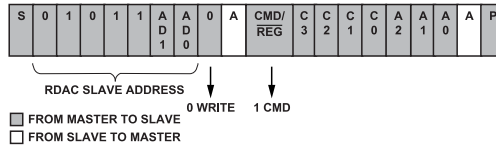

Figure 31. RDAC Quick Command Write (Dummy Write)
The AD5253/AD5254 feature 12 quick commands that facilitate easy manipulation of RDAC wiper settings and provide RDAC-to-EEMEM storing and restoring functions. The command format is shown in Figure 31, and the command descriptions are shown in Table 9.
2. In the write mode (except when restoring EEMEM to the RDAC register), there is an instruction byte that follows the slave address byte. The MSB of the instruction byte is labeled CMD/REG. MSB = 1 enables CMD, the command instruction byte; MSB = 0 enables general register writing. The third MSB in the instruction byte, labeled EE/RDAC, is true when MSB = 0 or when the device is in general writing mode. EE enables the EEMEM register, and REG enables the RDAC register. The 5 LSB, A4 to A0, designates the addresses of the EEMEM and RDAC registers (see Figure 27 and Figure 28). When MSB = 1 or when the device is in CMD mode, the four bits following the MSB are C3 to C1, which correspond to 12 predefined EEMEM controls and quick commands; there are also four factory-reserved commands. The 3 LSB—A2, A1, and A0—are 4-channel RDAC addresses (see Figure 31). After acknowledging the instruction byte, the last byte in the write mode is the data byte. Data is transmitted over the serial bus in sequences of nine clock pulses (eight data bits followed by an acknowledge bit). The transitions on the SDA line must occur during the low period of SCL and remain stable during the high period of SCL (see Figure 33).